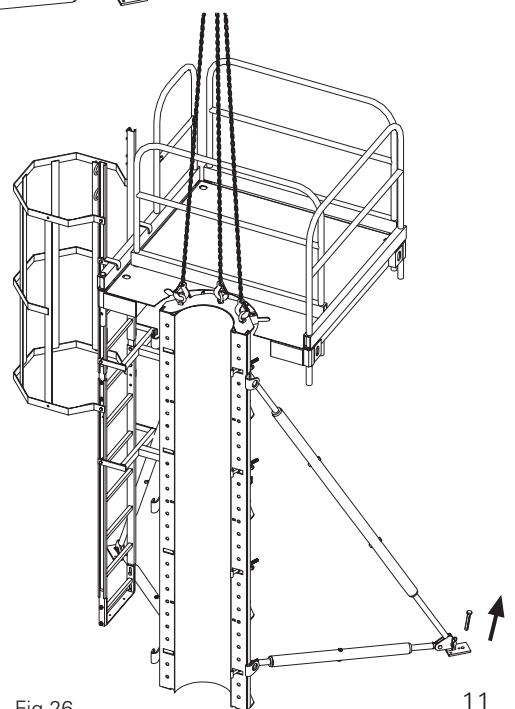

Fig. 26
5. Attach the propped column element to the crane lifting gear, and release the pinned base plates of the push-pull props. Fig. 26